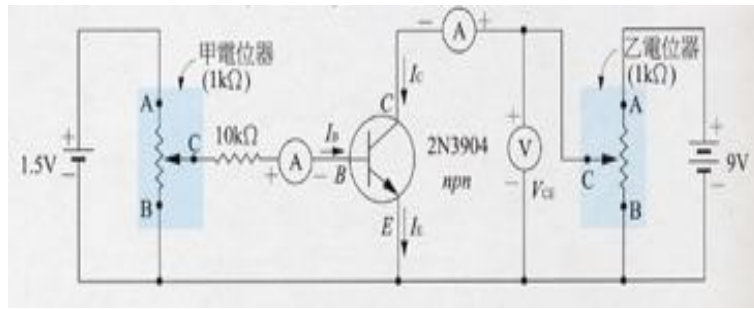
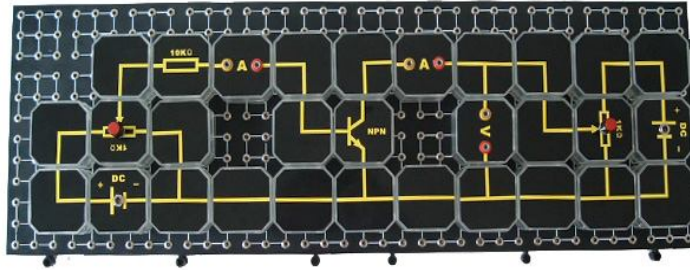

Figure 5
Figure 6
1. Accordance with Figure 5, a circuit diagram of the apparatus combination shown in Figure 6, the figure $10k\Omega$ is used to limit the size of the I_B , to avoid excessive current flows into the transistor and cause transistor overheating.